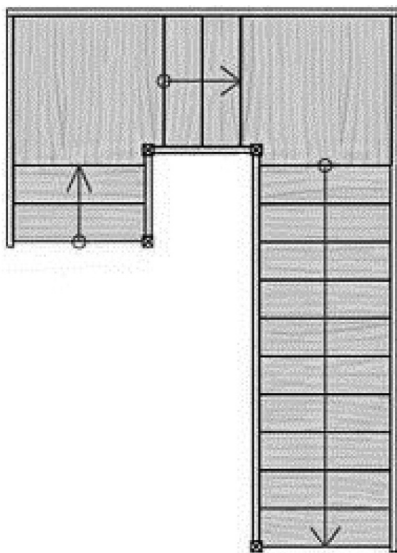

Figure 3
- 14 What type of staircase is shown in Figure 3?